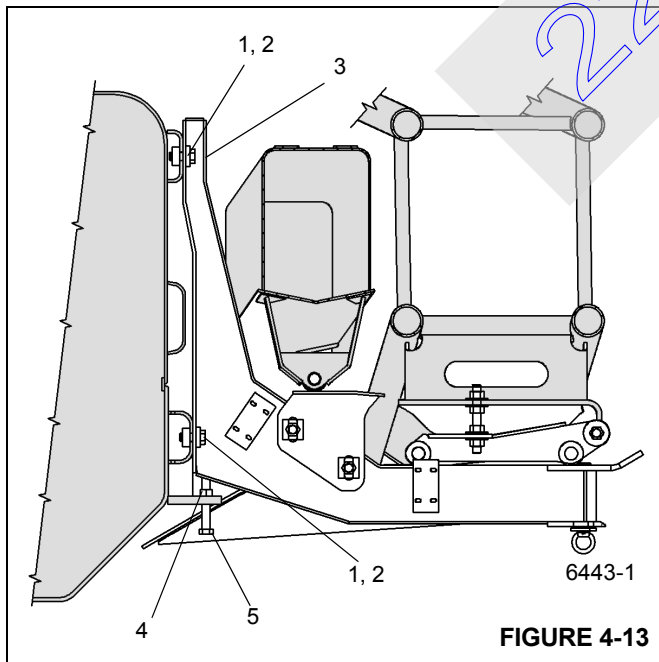

FIGURE 4-13
1. Loosen items 1 and 2 that secures item 3 (refer to Figure 4-13).
2. Loosen item 4 that secures item 5.
3. Adjust item 5 so as to move item 3 to its highest position on the boom.
4. Tighten items 1 and 2 that secures item 3 (refer to Figure 4-13).
5. Tighten item 4 that secures item 5.